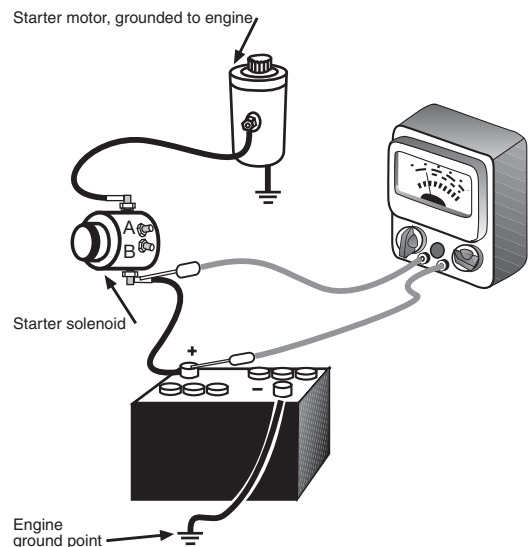

Figure 6-9. Starter circuit voltage-drop test—Step 1.
Figure 6-9 shows the meter hook-ups for this test. Before you begin, locate the connections labeled "A" and "B." "A" is the feed from the ignition switch (or start button) that powers the solenoid when the key or button is engaged. "B" is the ground for the magnetic coil in the solenoid. It has a black wire.
**Step 1.** Hook up the multimeter as shown in Figure 6-9. Your voltage reading with the engine cranking should not exceed 0.3 volt. If it does, then:
In the electrical circuit, your neutral safety switch lies between the ignition switch and the starter motor solenoid. When you shift the control unit into neutral, the safety switch should be in the "closed" position, completing the circuit between the ignition switch and the terminal marked "A" in Figure 6-9.